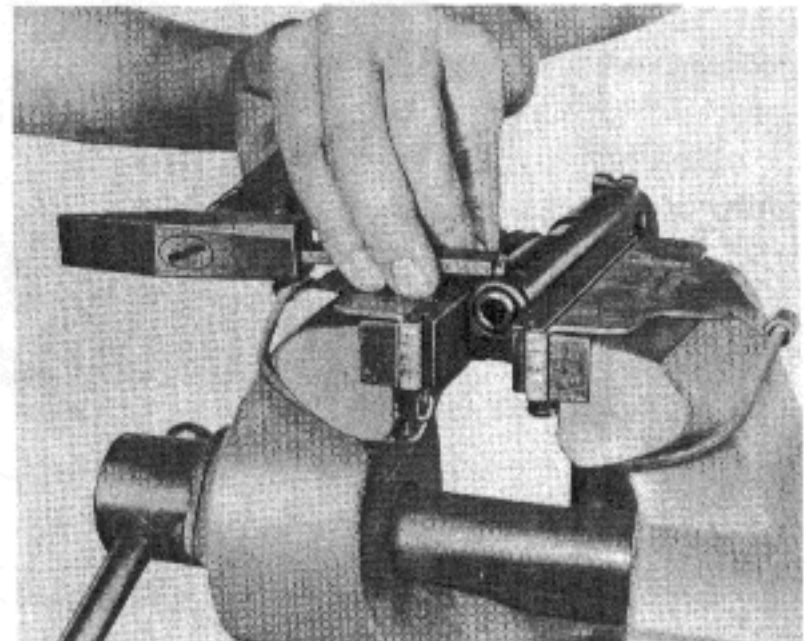

Fig. 52
**(1) Changing the front sight**
- Using a drift, drive out the front sight from right to left. (Fig. 52).